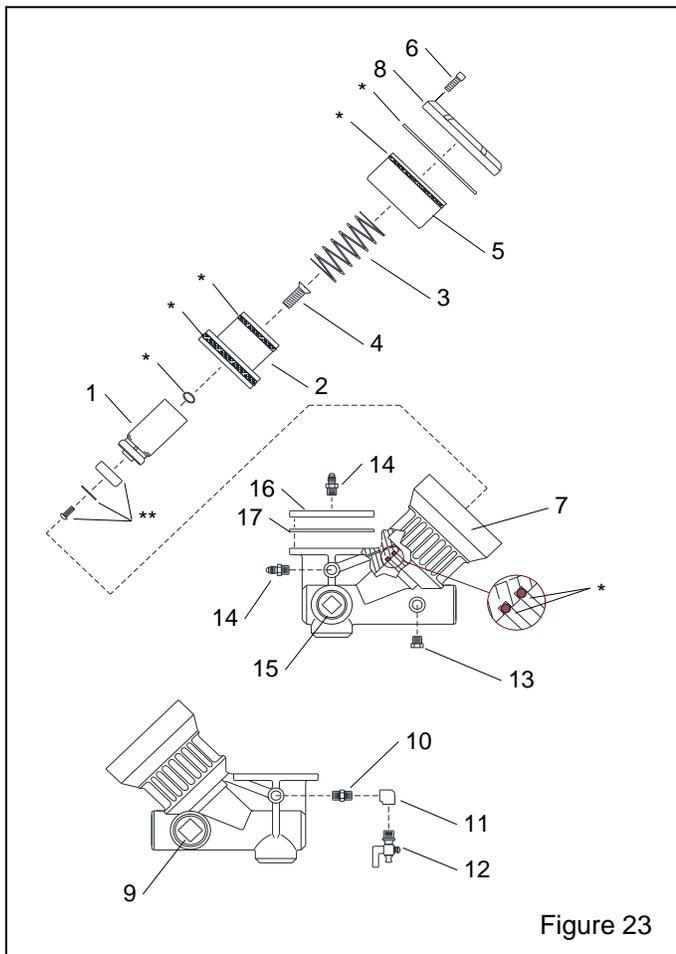

Figure 23
8.6 Millennium Valve, Inlet Segment, Figure 23